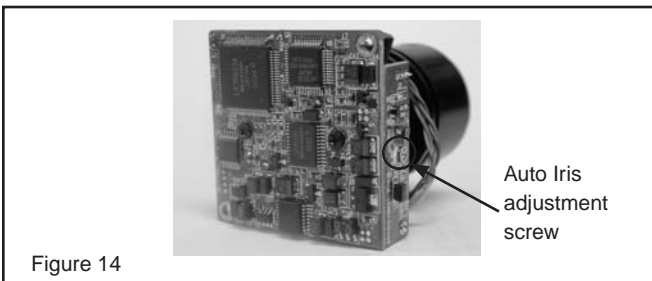

Figure 14
**FIXED AND FIXED VARI-FOCAL LENSES.** There are no user adjustable settings on these units (Figure 14)